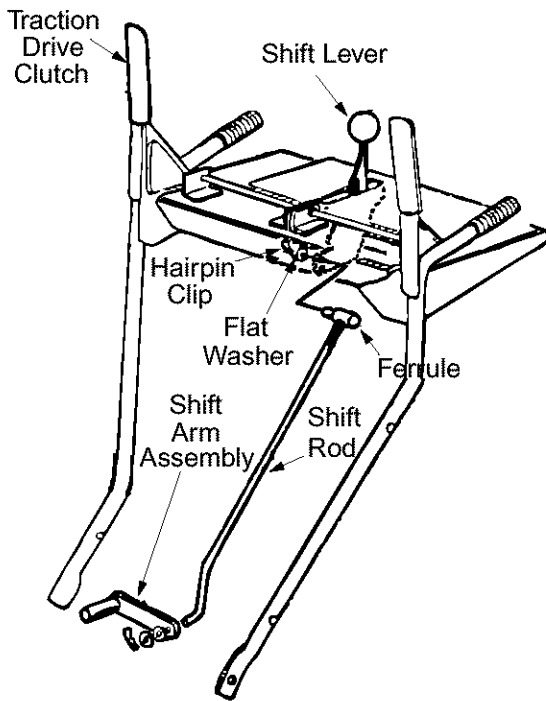

Figure 11
1. Place the shift lever (on the handle panel) in the sixth (6) speed position (all the way forward).
2. Place the bent end of the shift rod (E) into the hole in the shift arm assembly. See Figure 11. Secure with flat washer and hairpin clip.